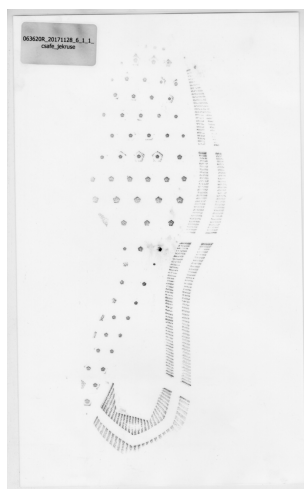

Figure 7: Sample of a proper paper print scan
8. If the crop is correct and the settings are right, press "scan" at the bottom of the gray box. This will scan the document and send it to the desired location. Figures 7 and 8 are examples of successful scans.
9. Continue to scan the remainder of the prints while making sure to change the crop as needed. See figures 7 and 8 for examples of proper scans.